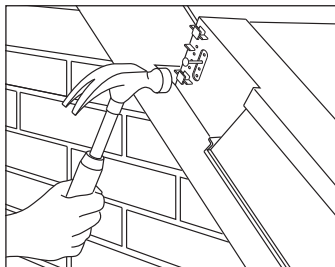

Fig. 4 – Nail fix verge unit
- 10 After sliding eaves roof tile downwards into position, nail verge unit using appropriate hole (i.e. nearest to the centre of tiling batten) with 40mm x 3.35mm annular ring shank nail provided in fixing kit (Fig. 4).